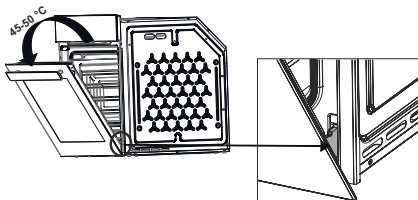

Fig. 30
6. ➔ Close the oven door to a 45°-50° angle as shown, so that it touches the hinge lock (Fig. 30).